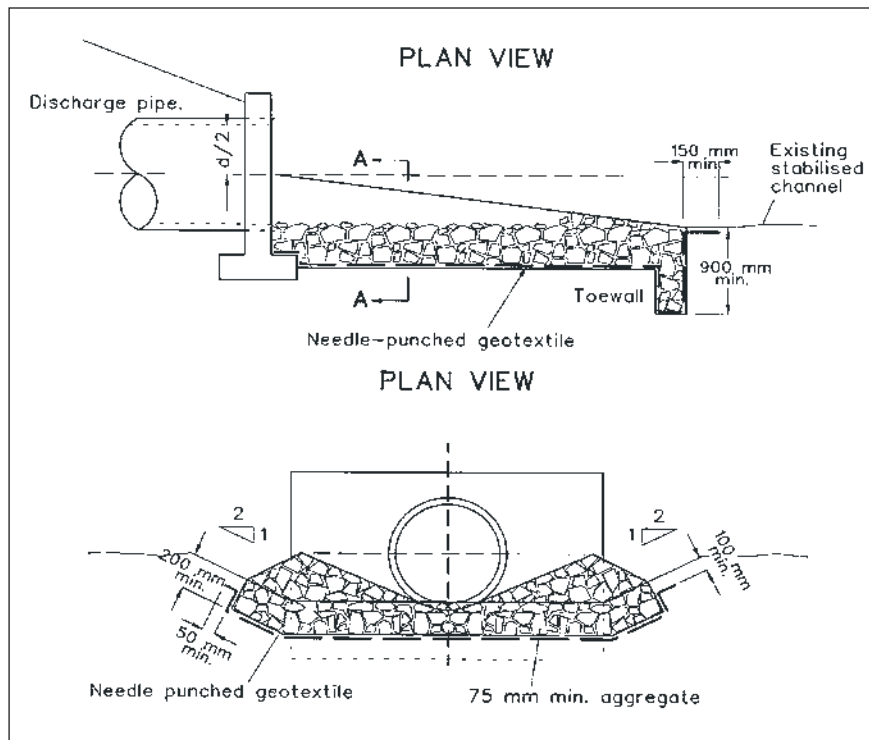
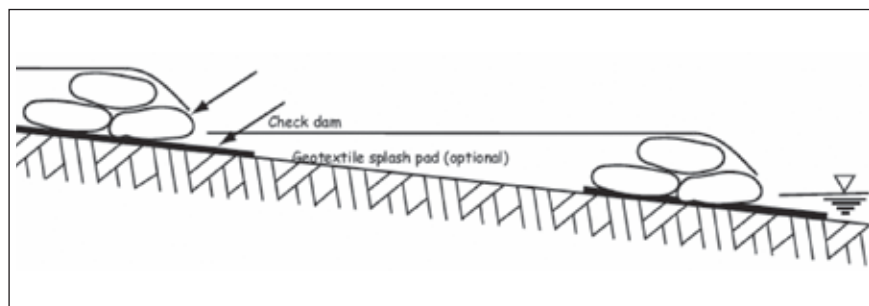

Figure 11A: Hard rock scour protector.
Figure 11B: Example of a check dam.
**Stormwater pipe outfalls:** should be located in areas where there is a low potential for soil erosion (e.g. areas of naturally occurring rock). If this is not possible, create a hard rock scour protector (**see Figure 11A**). If the pipe is highly visible (e.g. along a creek-side walking trail), natural rock and vegetation placement can conceal the outfall. If the outfall becomes council infrastructure, appropriate design approvals are required.
Figure 11A from Landcom 2004 "Soils and Construction Volume I Managing Urban Stormwater (4th edition)". Figure 11B from South East Queensland Healthy Waterways partnership 2006 "Best Practice Guidelines for the Control of Stormwater Pollution from Building Sites". Text in this brochure has been obtained and modified from the "Do It Right On Site" brochure series, kindly provided by the Southern Sydney Regional Organisation of Councils.